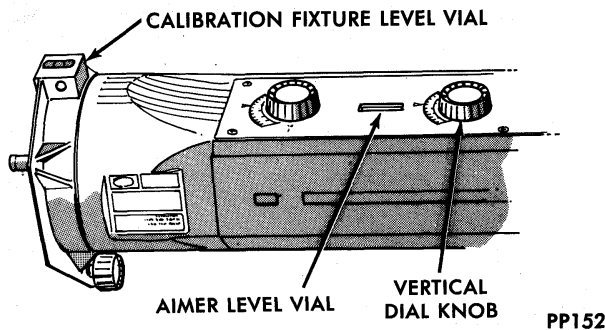
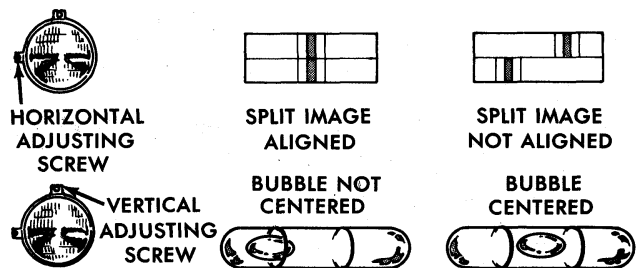

Fig. 6—Checking Vertical Aim Calibration
Fig. 9—Split Image and Bubble Alignment and Head Lamp Adjusting Points
(6) With both calibration level vials centered turn vertical dial knobs on each aimer until aimer level vials are centered. If aimer vertical dial pointers read between 1/2 up and 1/2 down, aimers are within allowable vertical tolerance. Re-calibrate units if beyond these limits (Fig. 6).
aimer slightly to locate the target (Fig. 9).
(3) Turn horizontal screw on side of headlamp until split image of target line appears in mirrors as one solid line (Fig. 9). To remove "backlash," make final adjustment by turning adjusting screw in a clockwise direction.
(4) Repeat the last three steps on opposite headlamp.
(2) Turn vertical adjusting screw (Fig. 6) until the level bubble is centered between the lines (Fig. 9).
(3) Repeat the last two steps on the opposite headlamp.
(4) Re-check target alignment on both aimers and readjust horizontal aim if necessary.
(5) Repeat aiming process for a four headlamp system on the second pair of lamps.
(6) Remove aimers by pressing "vacuum release" button located on piston handle.
(7) Install headlamp trim rings if removed.